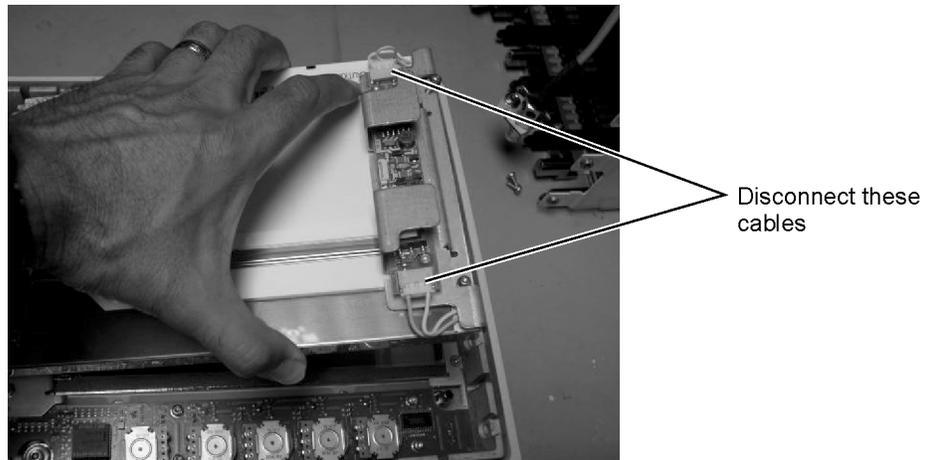

Figure 4-18. Disconnecting the Cables from the A3 Backlight Inverter
- 2 Disconnect the cables from the A3 Backlight Inverter shown in Figure 4-18.